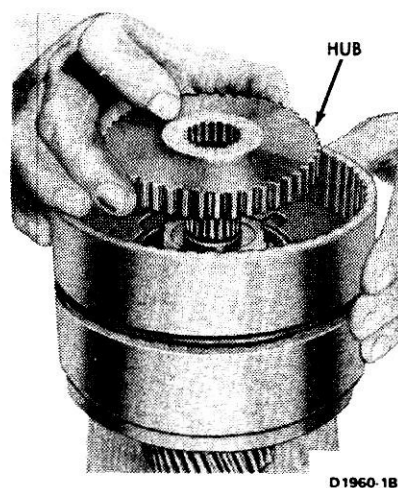

FIG. 46 Installing Clutch Hub
6. Install the clutch hub in the clutch cylinder with the deep counterbore down (Fig. 46). Install the thrust washer on the clutch hub.